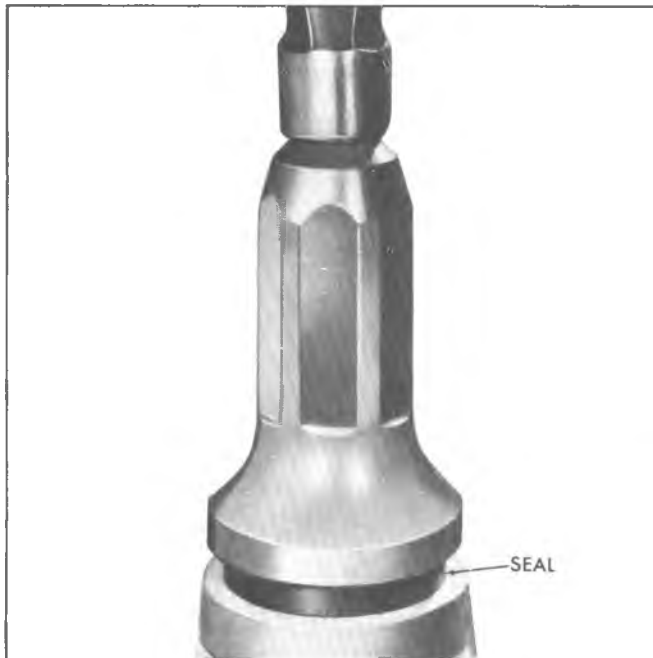

Fig. 140T--Installing Extension Oil Seal (Typical)
- a. (All except CM and CL Models) use a non-hardening sealer on outside of seal body; and using Tool J-21359, drive seal in place (fig. 140T).
- b. (Model CM and CL) use a non-hardening sealer on outside of seal body; and using Tool J-21464 (CM) or J-24057 (CL), drive seal in place (fig. 140T).